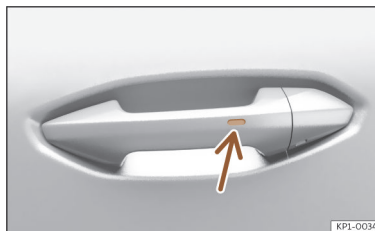

Fig. 89 Door handle: sensor surface.
- **OR:** using the Keyless Access system (only locking): Press and hold the locking sensor surface >>> **Fig. 89** (arrow) on the door handle for several seconds to close the windows and the sunroof. If you stop touching the sensing surface, the locking function is interrupted.
Press and hold the locking sensor surface >>> Fig. 89 (arrow) on the door handle to close the sunroof. If you stop touching the sensing surface, the locking function is interrupted.